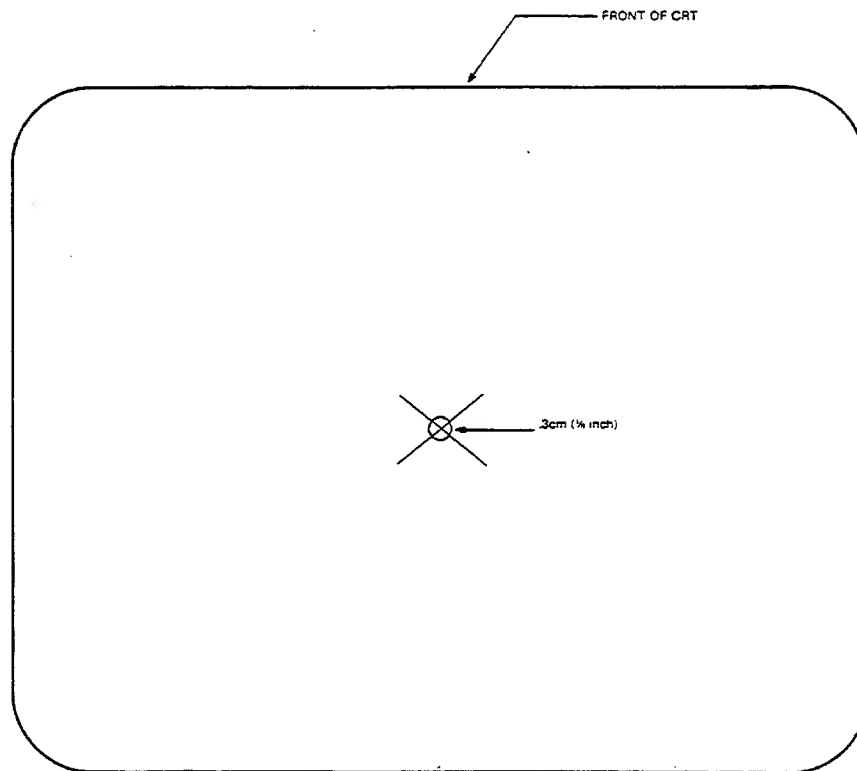

Figure 5-1. Yoke Centering Adjustment
- f. While holding a flexible straight edge from the lower-left corner to the upper-right corner of the CRT (facing the CRT), make a mark about one inch long with a water soluble felt pen across the center of the CRT. See figure 5-1.
- g. Repeat the above step for the upper-left corner and the lower-right corner forming an "X" in the center of the CRT. See figure 5-1.
- k. The dot should appear within a .3 cm (1/8 inch) radius of the intersection of the two lines. If this does not occur, align the dot using the centering rings on the yoke. See figure 5-1.